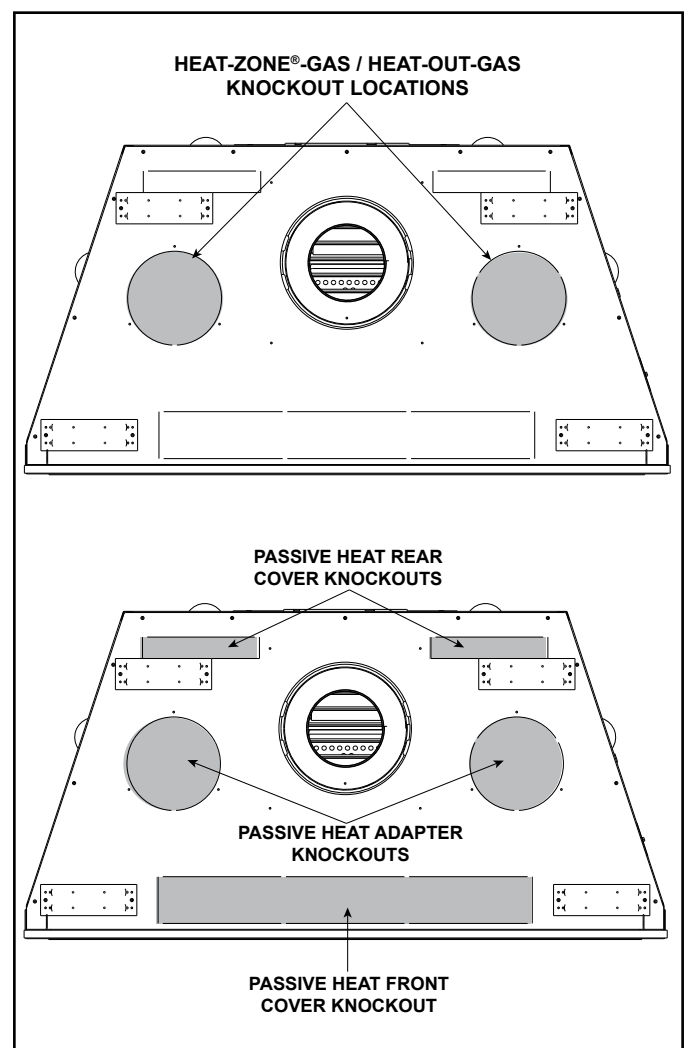

Figure 6.12 Heat Management Knockout Locations
- Locate the two heat management knockouts on the top of the appliance. Remove the knockout from the fireplace and discard it. See Figure 6.12. Either one or two heat management systems may be installed. Remove the knockout(s) from the appliance with a tin snips.
Passive Heat may be used with HEAT-OUT-GAS or one HEAT-ZONE®-GAS. The dedicated knockouts, as shown in Figure 6.12, must be used only as indicated.